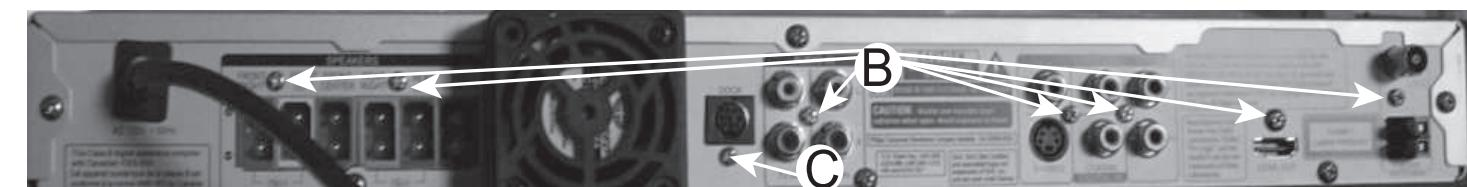

Figure 5
- 1) Loosen 7 screw "B" at the back panel as shown in figure 5.
- 1) Loosen 1 screws "C" at the back pance as shown in figure5